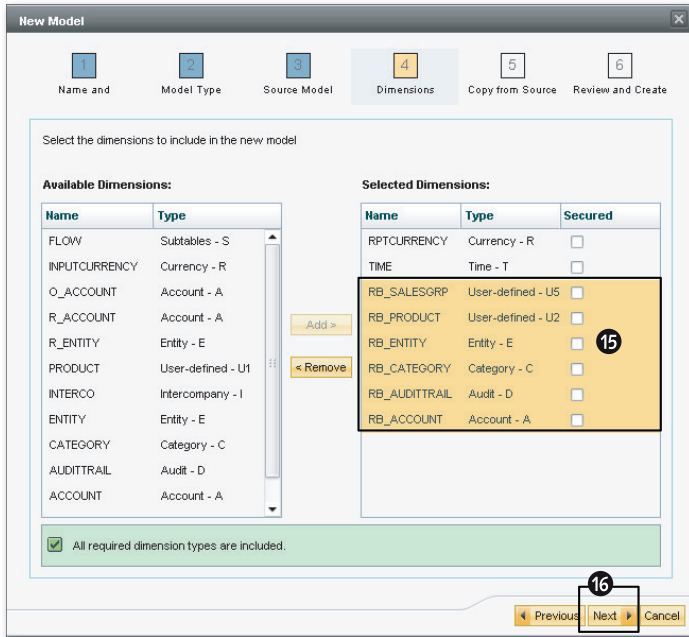

Figure 3.42 Creating a Model—Part F
7. Add the RB_ACCOUNT, RB_CATEGORY, RB_SALESGRP, RB_AUDITTRAIL, RB_ENTITY, RB_PRODUCT, RPTCURRENCY, and TIME dimensions from the list of AVAILABLE DIMENSIONS in the left area to the new model in the right area using the ADD button to the SELECTED DIMENSIONS (Figure 3.42, 15).
8. A dimension can be marked as a secured dimension. Marking a dimension assists with restricting data access for users based on values in that dimension. To do this, select the dimension, and click on SECURED. Select NEXT (Figure 3.42, 16).